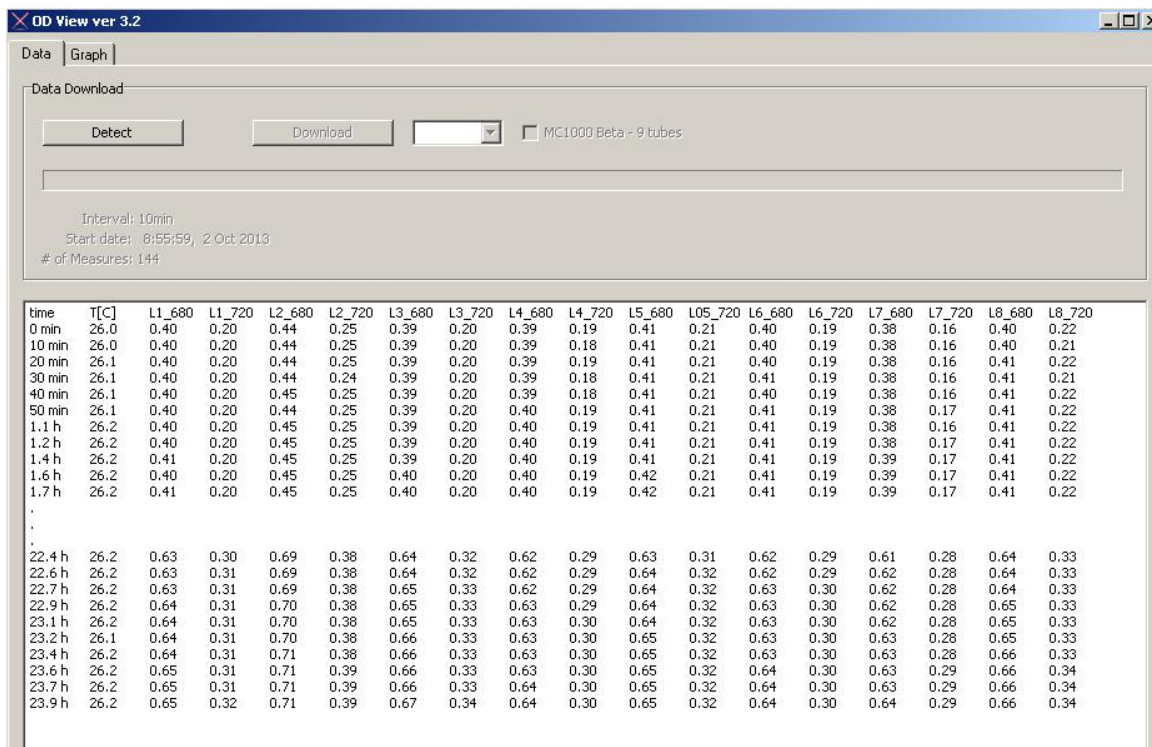

Fig. 25 OD and Temperature downloaded data window.
66. Click **Detect** button for the software to connect with the Multi-Cultivator control unit. Once the connection has been established click **Download** button that appears. The stored data from the MC 1000-OD control unit will be downloaded and the following screen will appear as shown in Fig. 25.